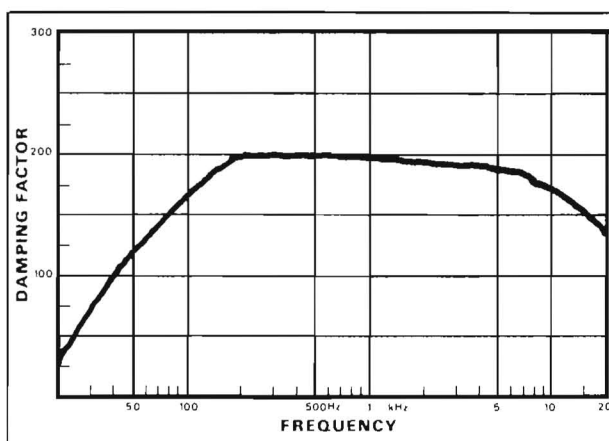

Figure 34 A Plot of Damping Factor vs Frequency
6. If desired, the damping factor can be plotted for all frequencies from 20 Hz to 20 kHz as shown in Figure 34.